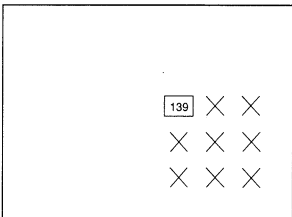

fig. 13
- Adjust value on the picture to 139 (Fig. 13).